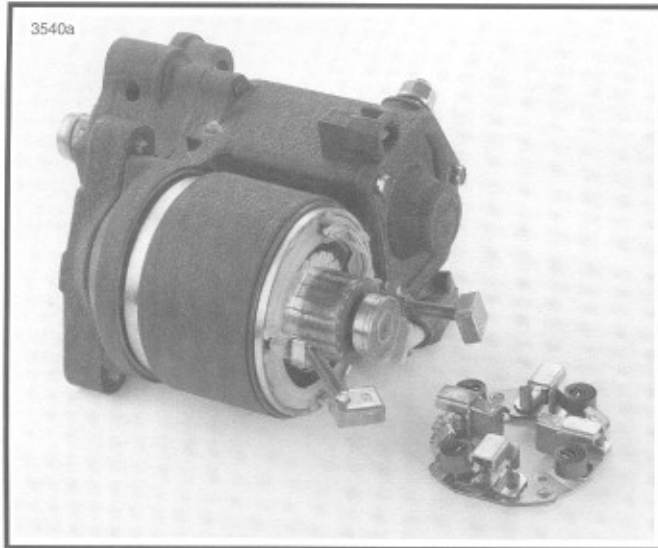

Figure 5-12. Removing Brush Holder
- See Figure 5-12. Use a wire hook to pull upward on brush springs, and lift brushes out of holder. Remove brush holder.